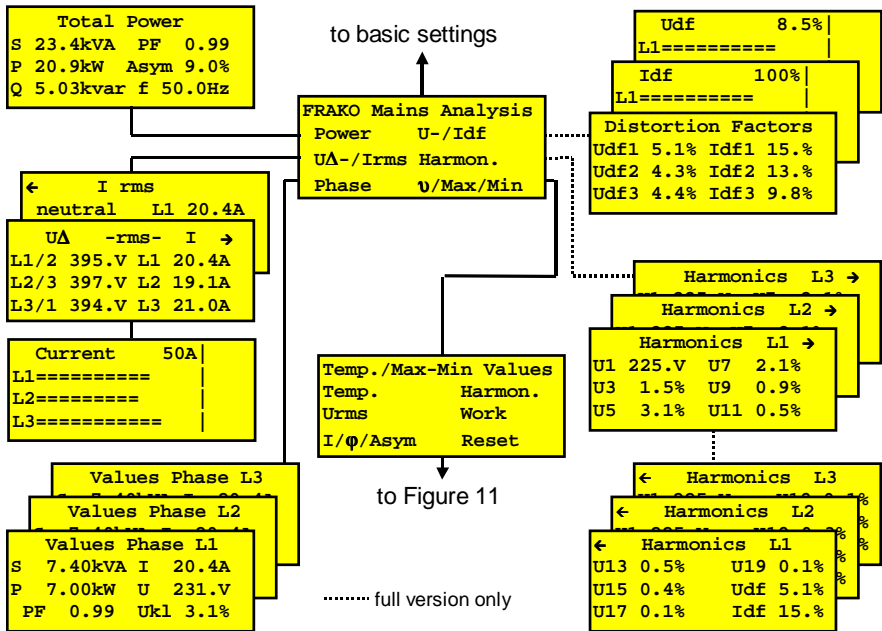
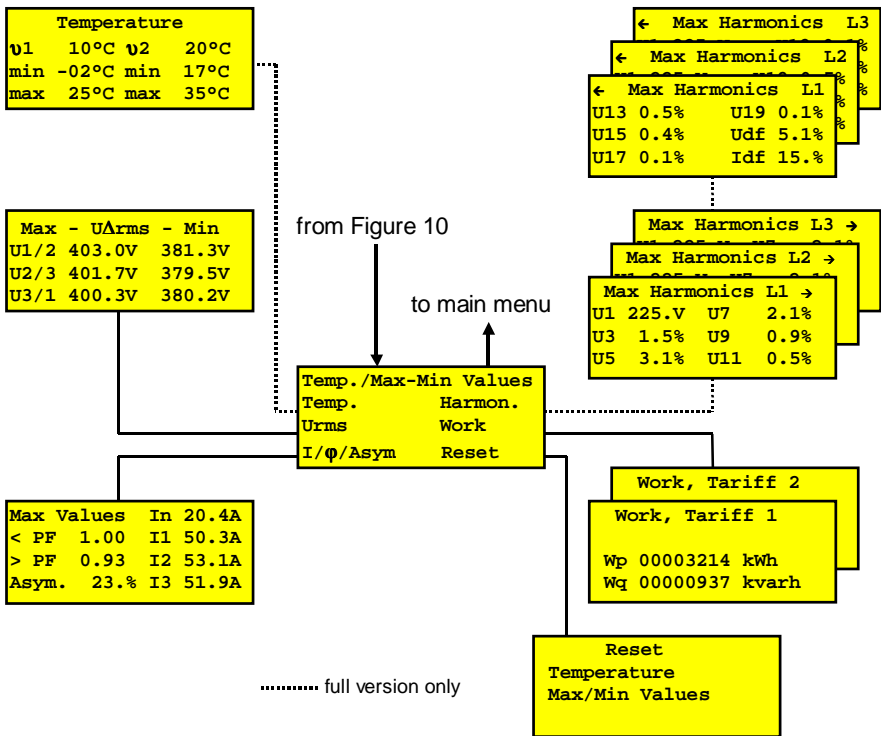

Figure 10: Main menu
Figure 11: Sub menu
The individual windows with values that can be displayed are illustrated in the overview in Figure 10 und Figure 11
- Submenus under "Temp/peak values" see Figure 11 .
The measurement readings and the max. and min. values are arranged in a clear menu structure and can comfortably be called up. (see Figure 10 und Figure 11) The formulas of the measured values are specified in section 7.1.